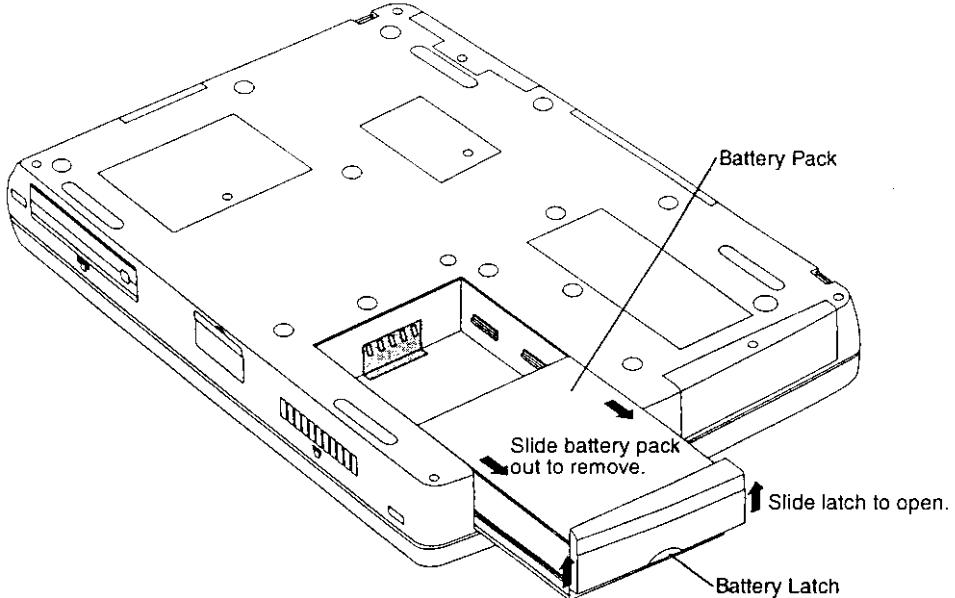

Figure 2-2 Removing the Battery Pack
2. Slide the battery latch on the battery pack currently installed in the pen tablet to the open position as shown in Figure 2-2.